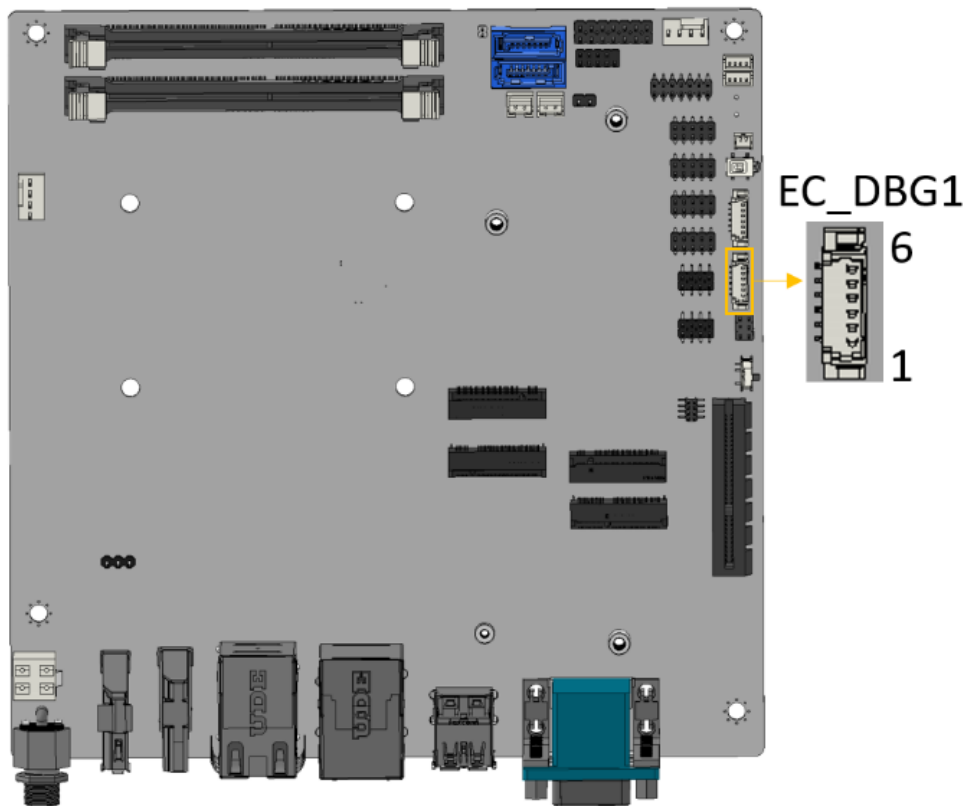

Figure 3-20: EC Debug Connector Location
- CN Location:** See **Figure 3-20**